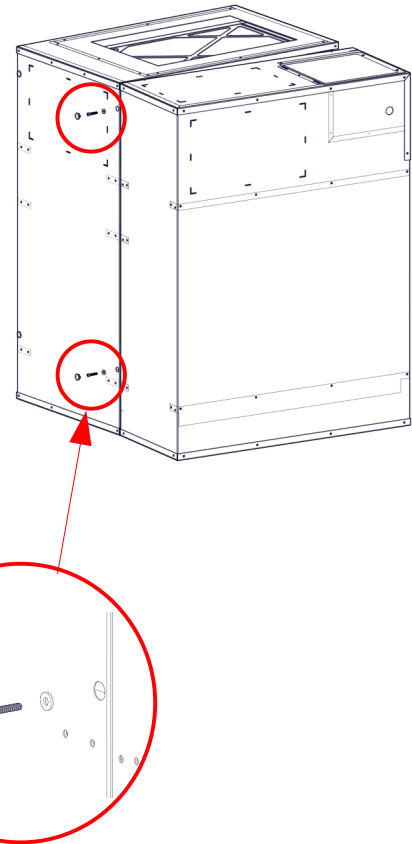
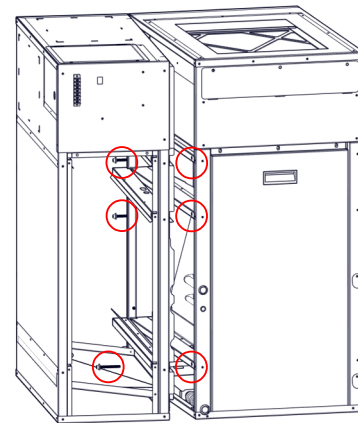

Figure 11 – Two bolts at the rear secure the sections.
Figure 12 – Three bolts accessed via heat exchanger sections.
3. The left and right sections are each held in place to the center section by five bolts: two that are accessible on the outside back of the unit (Figure 11), and three that are accessed via the heat exchanger doors (Figure 12).
4. Expose the two bolts at the rear of the unit (Figure 12) by removing the plastic cap. The cap can be removed by carefully prying with a screwdriver or knife.